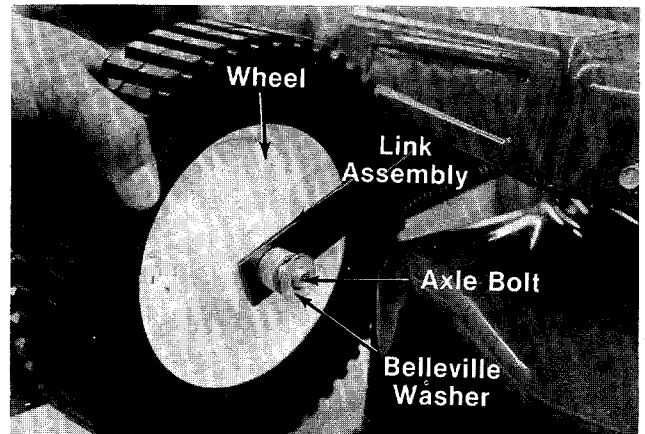

FIGURE 16.
4. With an adjustable wrench, remove the axle bolt, front wheel and belleville washer. See figure 16.